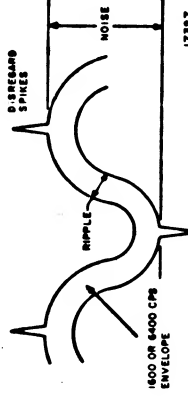

Figure 1. Typical Ripple and Noise Pattern
10. Measure peak-to-peak noise on oscilloscope, as shown in figure 1, and record.
9. Measure peak-to-peak ripple voltage on oscilloscope, as shown in figure 1, and record.
32. Measure peak-to-peak ripple voltage on oscilloscope, as shown in figure 1, and record.
33. Measure peak-to-peak noise on oscilloscope, as shown in figure 1, and record.
52. Measure peak-to-peak ripple voltage on oscilloscope, as shown in figure 1, and record.
53. Measure peak-to-peak noise on oscilloscope, as shown in figure 1, and record.